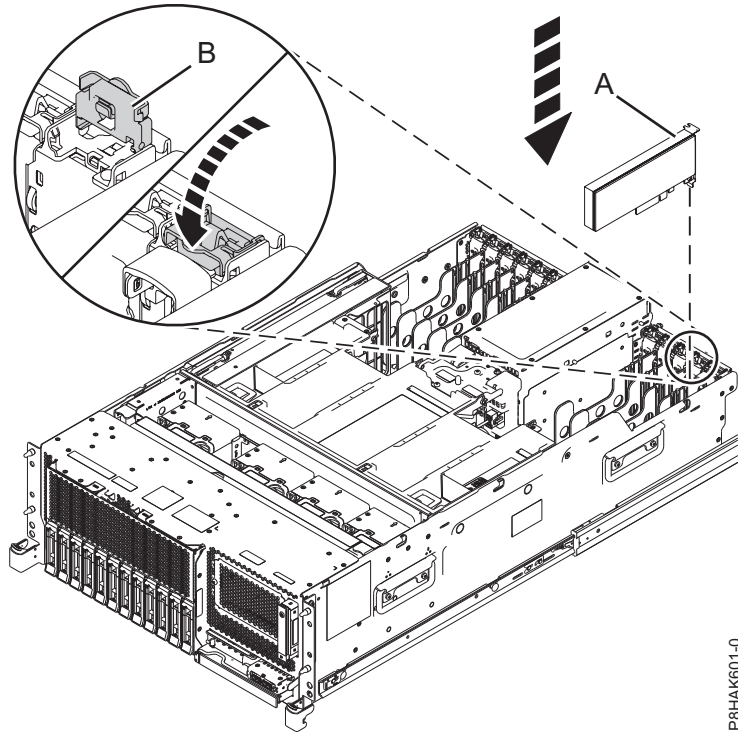
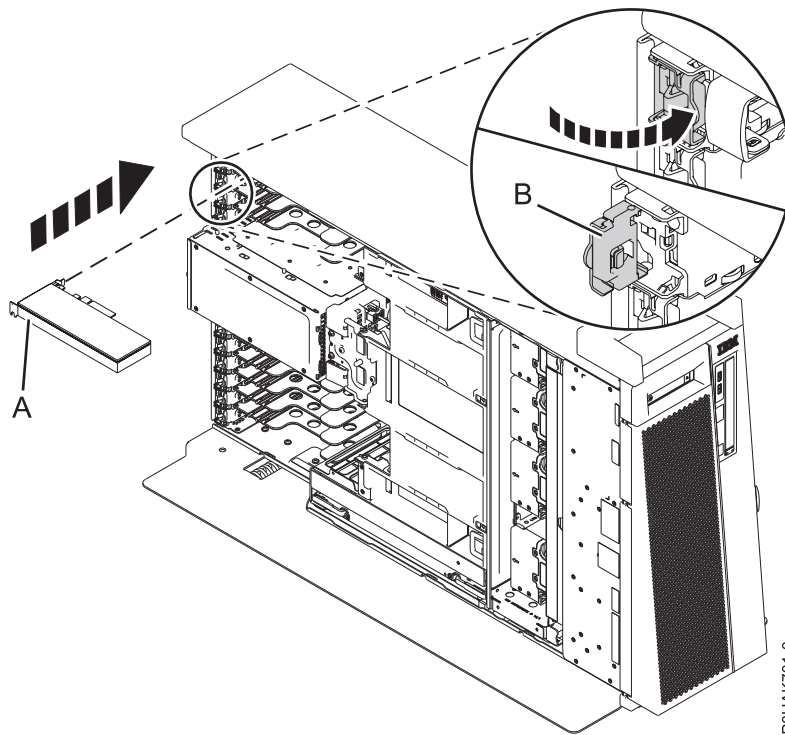

Figure 21. Installing or replacing a PCIe adapter in a rack-mounted system
Figure 22. Installing or replacing a PCIe adapter in a stand-alone 8286-41A system
6. If the adapter latch (B) at the target slot is not already in the open position, pull the latch into the open position by rotating the latch outwards from its clip on the back of the system, as shown in Figure 21 on page 23 and Figure 22 on page 23.
7. Carefully grasp the adapter by its top edge or tailstock, and align the adapter with the slot and its connector on the system backplane (A), as shown in Figure 21 on page 23 and Figure 22 on page 23.
9. To lock the adapter in its slot, rotate the adapter latch (B) in the direction that is shown in Figure 21 on page 23 and Figure 22 on page 23.